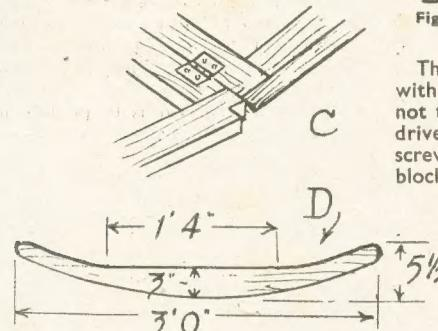

Fig. 5—The rocker and back hinging
To complete the wood-work part of the job, only the rockers are now required. These are detailed more clearly at (D) in Fig. 5. They are cut from wood 1½ins. to